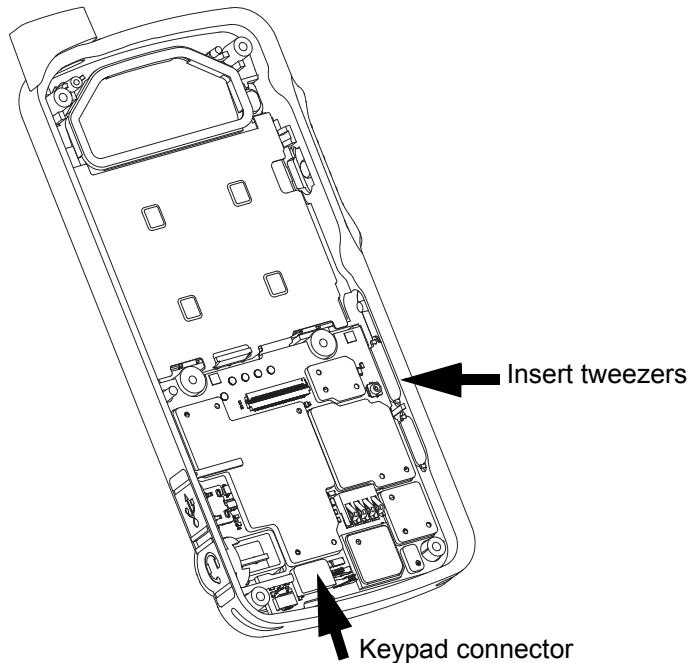

Figure 5-14. LCD display disassembly
1. Lift the PCB slightly from the right corner using tweezers as shown in Figure 5-14.